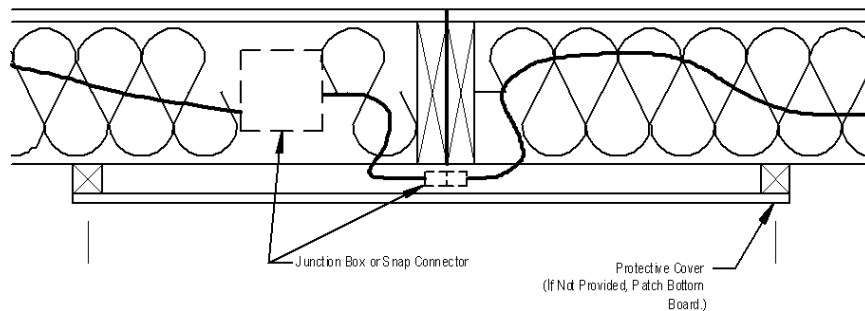

Figure 64. Floor electrical crossover wires with bumped-out access panel
2. **Route wires.** Pass the wires through predrilled holes or notches in the rim joist or if there is a single bumped-out access panel as in Figure 64, then under the rim joists. If holes or notches have not been provided and there is no bumped-out access panel, drill maximum one-inch diameter hole(s) half-way up the rim joists on each home section, making sure the holes align and feed the wire through the hole.